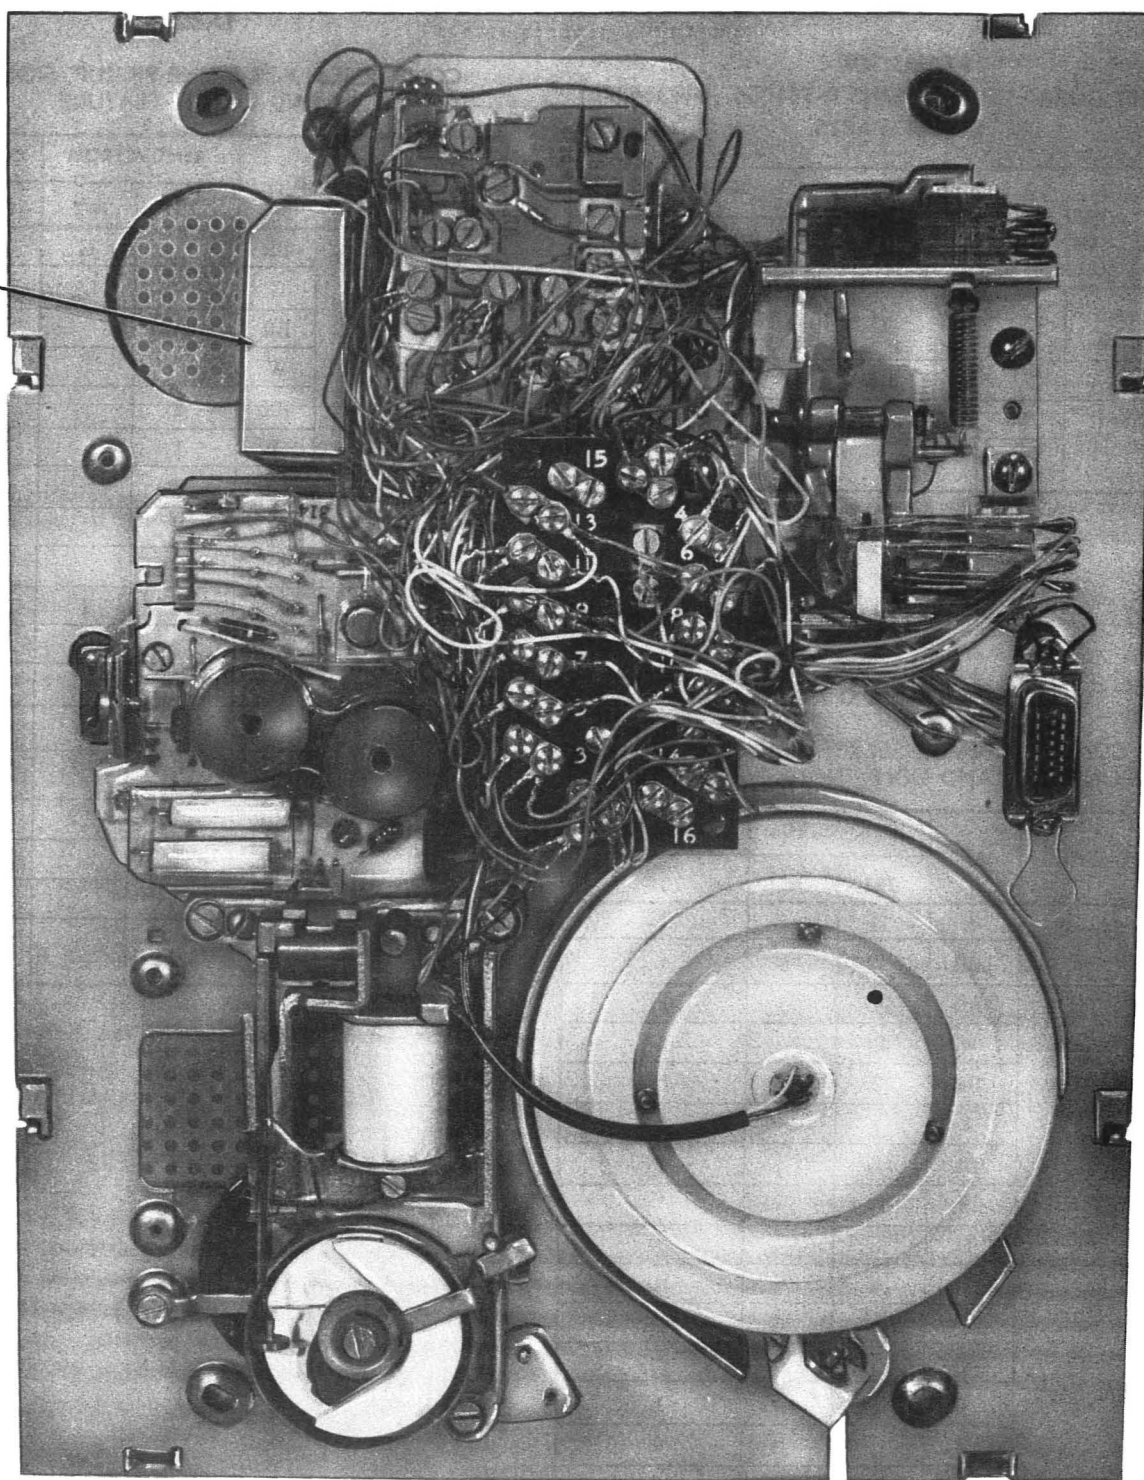

Fig. 3—♦Polarity Guard [D-181006 (840364376) Kit of Parts] Installed in 2751-Type Telephone Set♦
3.04 ♦An optional (D-181006 Kit of Parts) polarity guard (ordered separately) is available for use with the 2751C-58 (MD) or 2751D-50 (MD) set, or for field replacement in all 2751-type sets. It is intended for use when specified by local instructions for end-to-end signaling installations, refer to Fig. 3 and Table C for connections. The polarity guard has an adhesive backing for convenient placement.♦